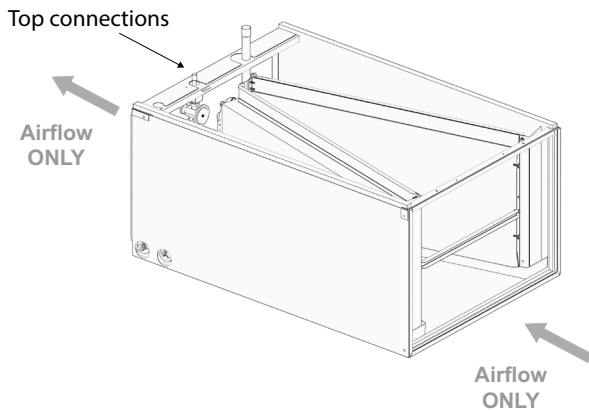

FIGURE 2.
- **Horizontal A-Coils with side connections** are bidirectional (Figure 2). Shown below with panels cut-away for clarity.